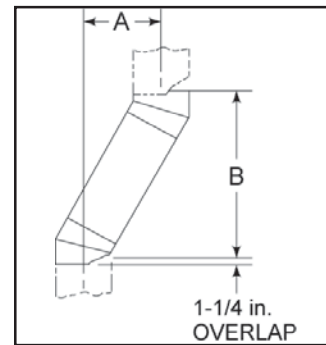

Figure 5
- 1) Measure how far the chimney needs to be shifted to enable it to avoid the overhead obstacle. See Figure 5, dimension “A” to determine chimney sections required to achieve the needed shift.
Example: Your “A” dimension from Figure 5 is 14-1/2 in. Using Table 1 the dimension closest to, but not less than 14-1/2 in. is 14-5/8 in. using a 30-deg offset/return. It is then determined from the table that you would need 33 in. (Dimension “B”) between the offset and return. The chimney components that best fit your application are two SL312s.